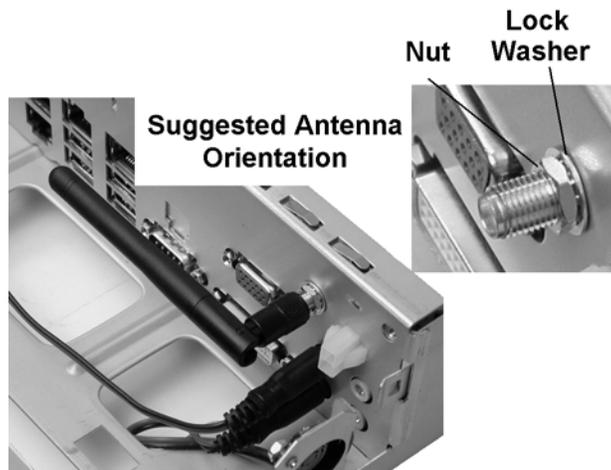

Figure 3-35: Installing the Front Panel Wireless Antenna Connector
- 3.** Remove the front panel antenna knock-out (located near the VGA DB15 connector). Insert the antenna connector and secure to the chassis with the nut and lock washer as shown in the upper right of Figure 3-35, below.
- 4.** Install the antenna. The lower half of Figure 3-35, show a suggested orientation.